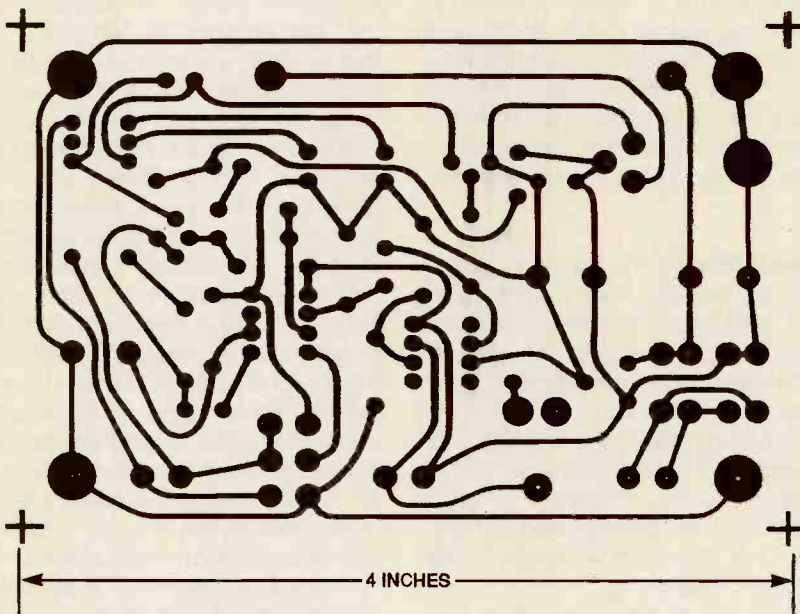
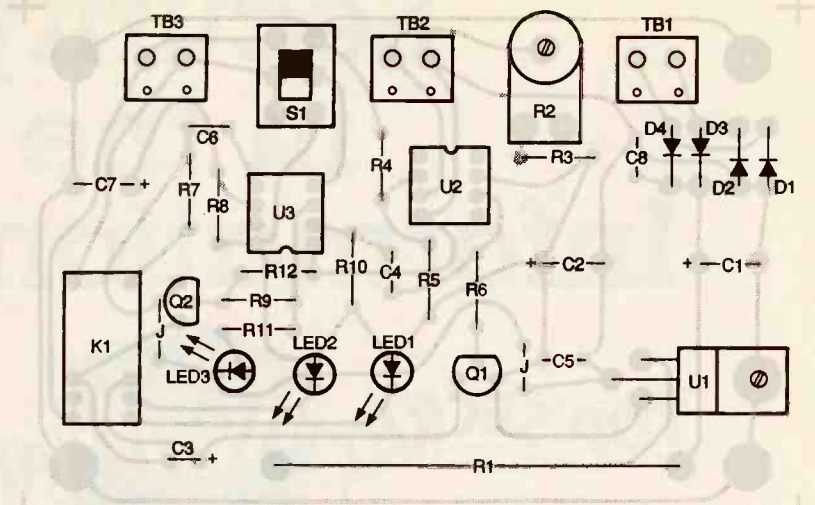

Fig. 2. The Sprinkler Guardian prototype was assembled on a printed-circuit board. A full-size template of it is shown here.
Fig. 3. Assemble your unit using this parts-placement diagram as a guide. Be sure to leave a 1/4-inch space between the PC board and R1 for ventilation.
**Construction.** The unit can be built on either perforated construction board or on a printed-circuit board. For those who want to use a PC board, a template is shown in Fig. 2, and the parts-placement diagram is shown in Fig. 3. Using the PC-board layout elimi-
All the components are mounted flush on the board except for R1. Leave about a 1/4-inch space between that high-wattage resistor and the surface of the PC board to allow better air-flow cooling. When installing capacitors C1, C2, C3, and C7, be sure to check that their polarity matches that shown in Fig. 3. Also, be sure to install the two jumper connections at the correct places.